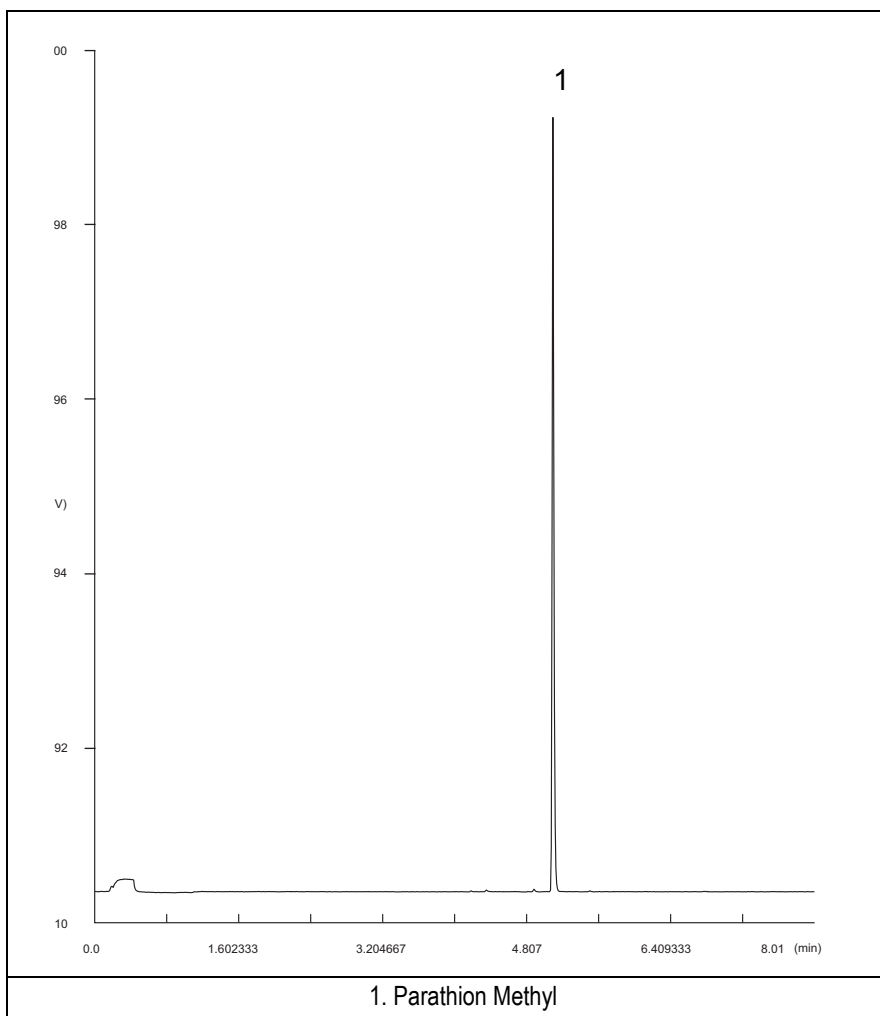

Figure 17-1. FPD-Splitless Injection with 526 nm filter
- When the GC is ready, inject the test mixture and press **START** on the GC to begin the checkout run. The resulting chromatogram should look like the one shown in *Figure 17.1* or *17.2*.